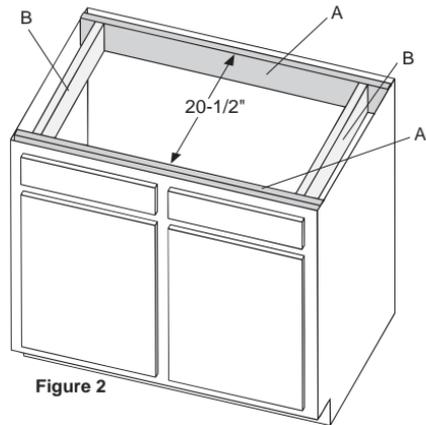

Figure 2
2. Attach two support boards to the sides of the cabinet, one in front and one in back, placing them 20 1/2" apart and equal distances from the centerline (See **Figure 2, A**). Place the boards at the proper height to allow the top of the sink to be flush with the top of the cabinet. It may be necessary for you to reinforce the sides of the cabinet for it to support the 350-pound minimum.
4. Now that you have the sink in position, attach two more 20 1/2" boards between the support boards (See **Figure 2, B**).